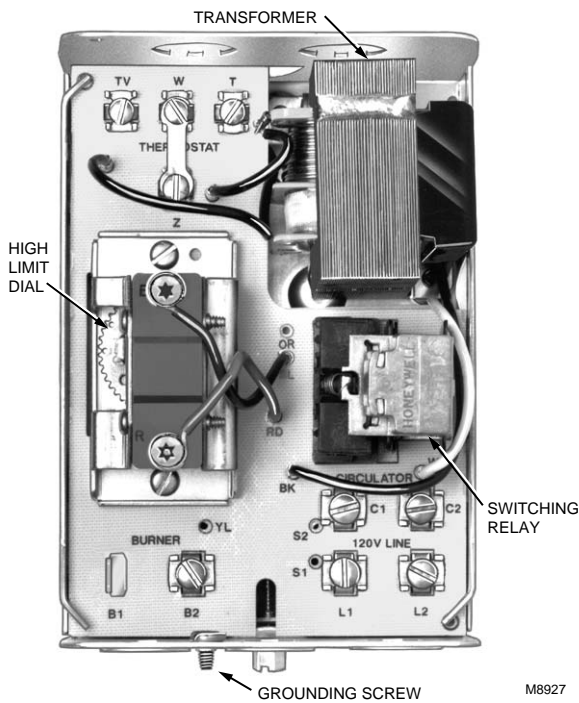

Fig. 3. Internal view of L8148E Aquastat® Relay.
- L8148J Aquastat™ Relay with zone control terminals; without well and spud. See Fig. 3.